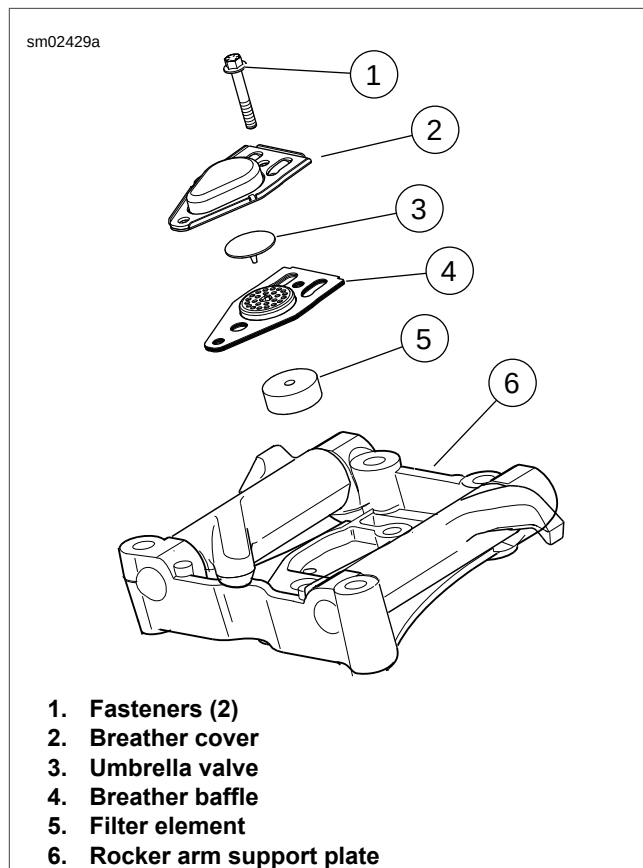

Figure 3-30. Breather Assembly
See Figure 3-30. Breather baffle assembly is manufactured with gaskets attached. Replacement part is supplied with the filter element (5) and umbrella valve (3). Any time the breather is disassembled, the baffle assembly must be replaced with a **new** assembly.
2. Remove two fasteners (1) and remove breather cover (2).
3. Remove breather baffle (4). Discard breather baffle, filter element (5) and umbrella valve (3).
See Figure 3-30. Install breather assembly and rocker cover using **new** baffle assembly. See 3.23 TOP END OVERHAUL: ASSEMBLY, Breather and Rocker Cover.